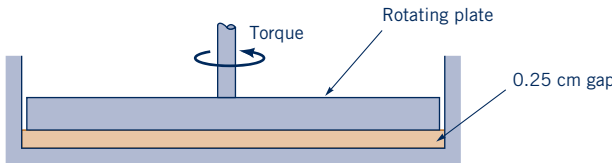

Figure P1.83
1.83 A 30 cm diameter circular plate is placed over a fixed bottom plate with a 0.25 cm gap between the two plates filled with glycerin as shown in Fig. P1.83. Determine the torque required to rotate the circular plate slowly at 2 rpm. Assume that the velocity distribution in the gap is linear and that the shear stress on the edge of the rotating plate is negligible.